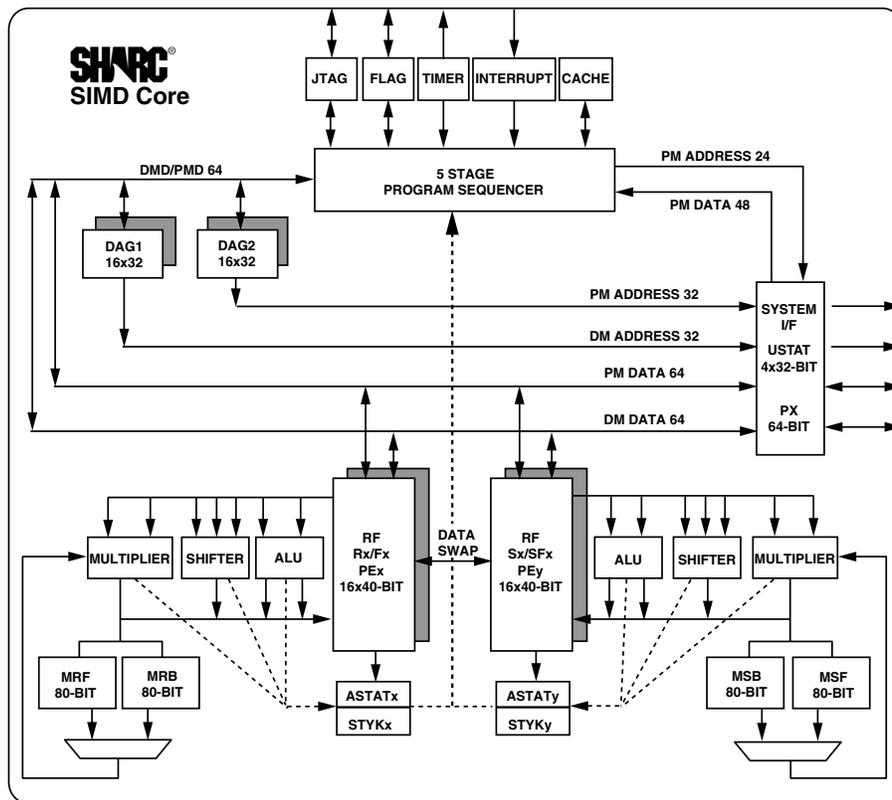

Figure 2. SHARC Core Block Diagram
The ADSP-2136x is code-compatible at the assembly level with the ADSP-2126x, ADSP-21160, and ADSP-21161, and with the first generation ADSP-2106x SHARC processors. The ADSP-2136x shares architectural features with the ADSP-2126x and ADSP-2116x SIMD SHARC processors, as shown in Figure 2 and detailed in the following sections.
The processor features an enhanced Harvard architecture in which the data memory (DM) bus transfers data and the program memory (PM) bus transfers both instructions and data (see Figure 2). With its separate program and data memory buses and on-chip instruction cache, the processor can simultaneously fetch four operands (two over each data bus) and one instruction (from the cache), all in a single cycle.